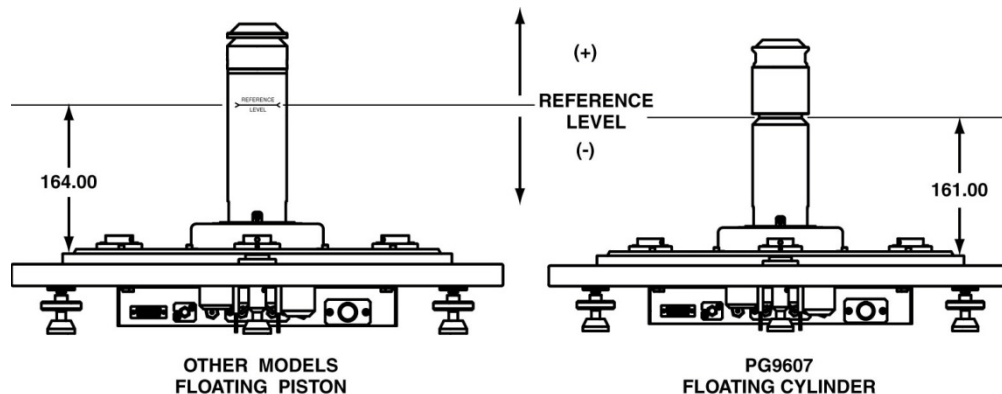

Figure 15. PG9000 Platform Reference Level Location
The natural reference level of a piston-cylinder is defined as the height at which changes in fluid density have no effect on the defined pressure. For a solid floating piston the natural reference level is located at the bottom of the piston. For hollow pistons the geometry is irregular and the natural reference level is located above the bottom of the piston. For a floating cylinder (PG9607) the geometry is irregular and the natural reference level is near the bottom surface of the cylinder cap. In order to create a convenient, single location for reference level determination the PG9000 defines the reference level as the location of solid pistons at mid stroke. The calculated **reference level offset** of hollow pistons and floating cylinders normalizes the different natural reference levels to the same height for convenience – the position of a solid piston at mid stroke or reference level (see Figure 15). In this way the DUT height does not need to be determined for each piston-cylinder that is used.
The pressure defined by a PG9000 floating piston is the pressure at the PG9000 **reference level**. The reference level is shown in Figure 15 for PG9000 platforms. Frequently, when performing a calibration or test, the device or system under test is at a different height than the PG9000 reference level. This difference in height (referred to as **DUT head**) can cause a significant difference between the pressure defined by the PG9000 at its reference level and the pressure actually applied to the device under test located at a different height. In this case, it is useful to make a head correction to the pressure defined by the PG9000 at its reference level in order to accurately predict the pressure actually applied at a different height. The HEAD function allows this head correction to be applied automatically for a variety of fluids based on operator entry of the height difference. The fluid used and the HEAD function units of measure are set by pressing **[SPECIAL]** and selecting **<3head>** (see Section 3.13.3).
- The DUT head height should be entered as a positive value if the device or system under test is higher than the PG9000 reference level and negative if it is lower (see Figure 15).
- The reference level is indicated by the piston mounting surface (for PG9607), the marking on mounting post (other PG9000 models) or may be taken as a distance from the platform baseplate (see Figure 15).